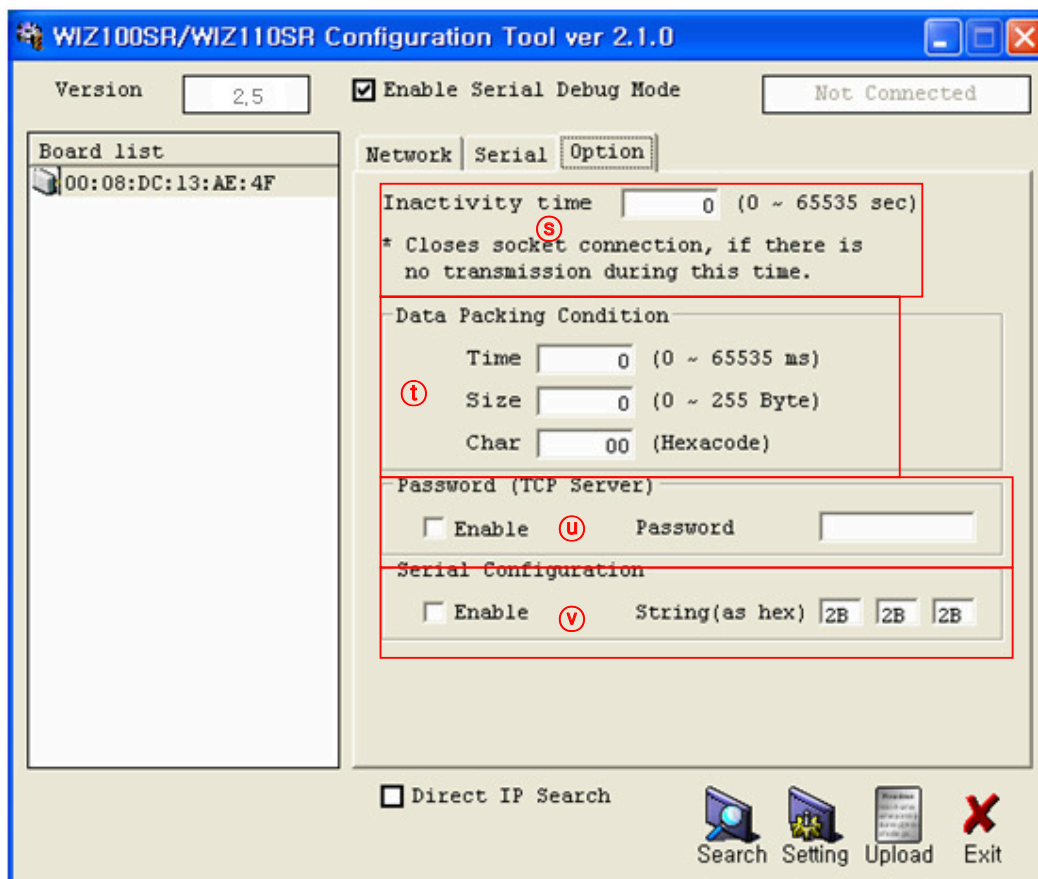

Figure 9. Configuration Tool (Option Config.)
3. As shown in Figure 9, select Option tab and check 'Enable' combo box of "Password" menu.